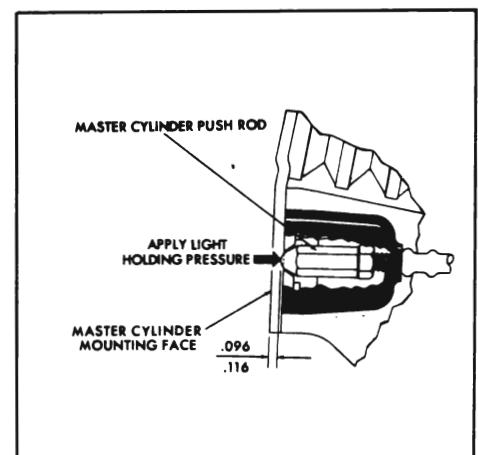

Figure 9-38—Push Rod Adjustment
2. Adjust the push rod length to the .096/.116 dimension (see Figure 9-38).